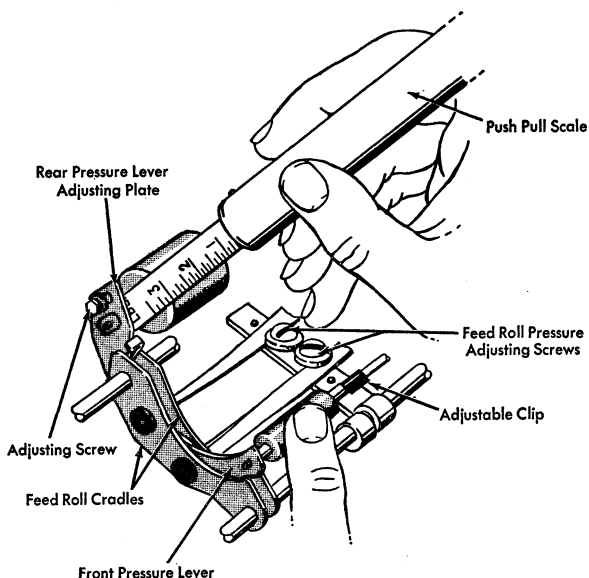

Figure 21. Feed Roll Pressure Adjustments
THE FEED ROLLS may be removed by depressing the spring-loaded plunger in the end of the feed roll shaft until it drops free of the pressure lever (Figure 21). The rear shaft is solid on machines above serial number 519,557 on Standard Models and 152,720 on Executive Models. The feed rolls are held in place by two clips. By removing one clip the rear shaft can be taken out.
2. Loosen the feed roll tension adjusting screws and remove the tension springs (Figure 21).
3. Remove the four spring clips which prevent side motion of the feed roll cradles (Figure 21).
7. ADJUSTING PLATES. Position these on the rear pressure levers by means of their adjusting screws so that the plates will cause the front pressure levers to be deflected an equal amount during paper release (Figure 21). When two IBM cards are inserted between the rear feed rolls and the platen, the front feed rolls should have a slight amount of drag. If five IBM cards are inserted, the front feed rolls should be free to turn. Too much clearance at the front feed rolls will decrease their tension and add greater tension to the rear feed rolls.
9. FEED ROLL PRESSURE. Adjust by turning the feed roll pressure adjusting screws until a pressure of 12 to 16 ounces is necessary to deflect each feed roll pressure lever (Figure 21). A push pull scale may be applied at the ends